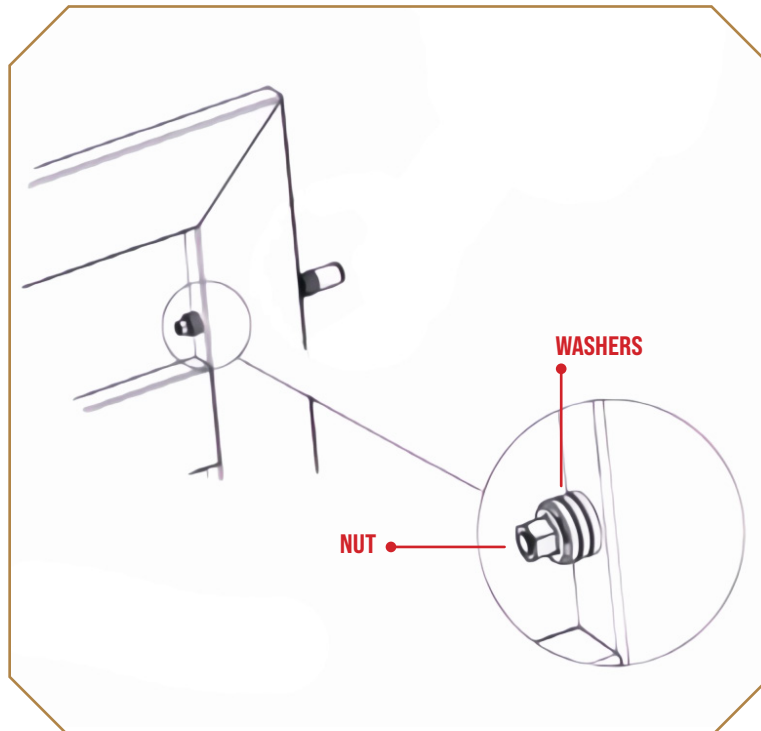

Figure 3
4. If the gap is too large, place the remaining washers and nut onto the pin (Figure 3).